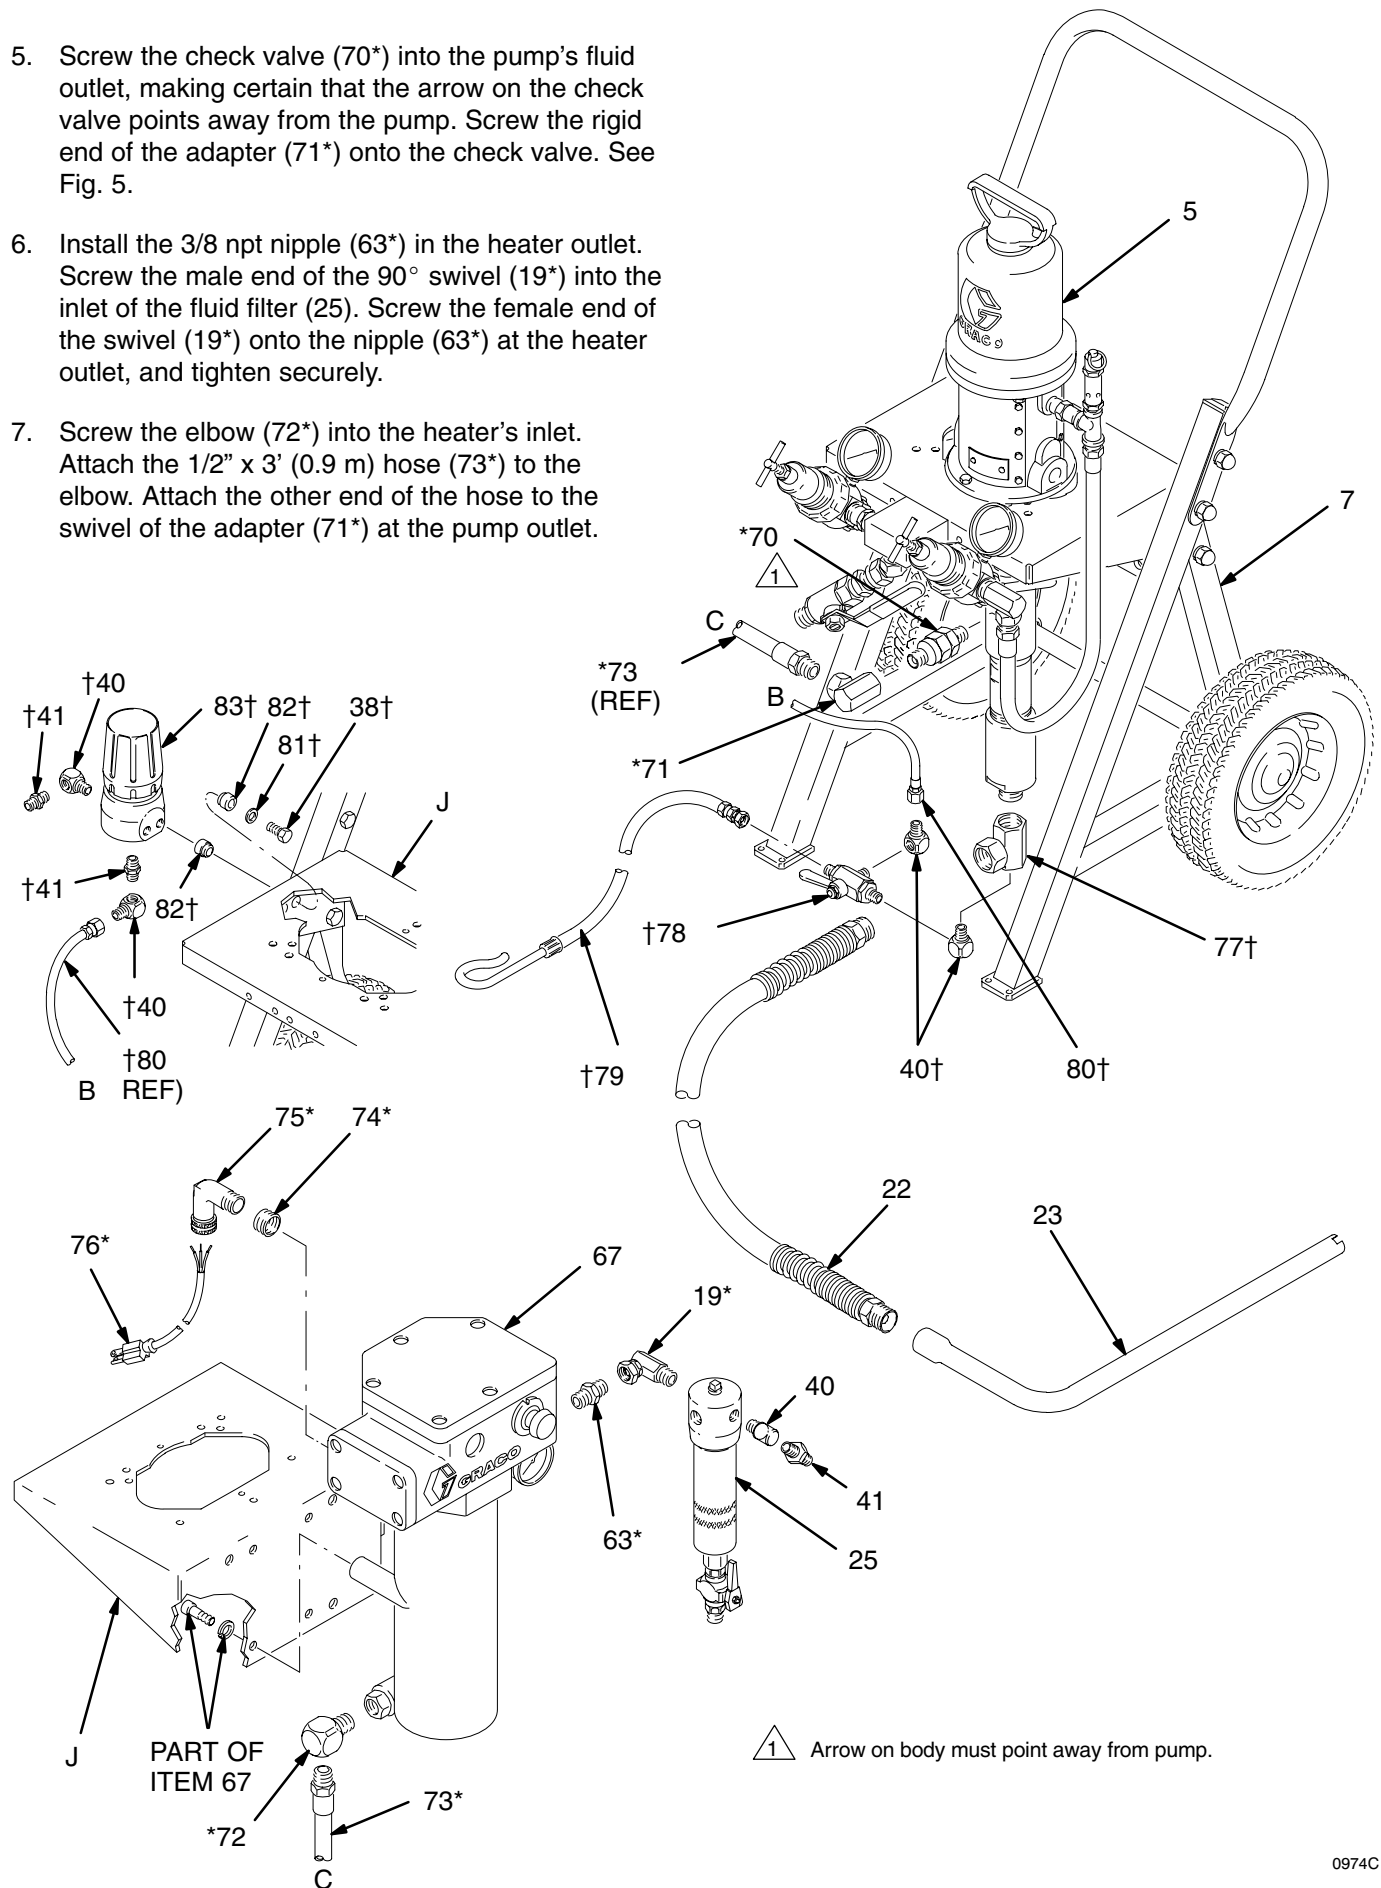

Fig. 5
3. Align the heater (67) mounting posts with the four holes at the back of the cart's pump support bracket (J). See Fig. 5. Secure the heater to the bracket with the M8 x 1.25 screws and lockwashers supplied with the heater.
5. Screw the check valve (70*) into the pump's fluid outlet, making certain that the arrow on the check valve points away from the pump. Screw the rigid end of the adapter (71*) onto the check valve. See Fig. 5.
6. Install the 3/8 npt nipple (63*) in the heater outlet. Screw the male end of the 90° swivel (19*) into the inlet of the fluid filter (25). Screw the female end of the swivel (19*) onto the nipple (63*) at the heater outlet, and tighten securely.
2. Screw the rigid end of the manifold (77†) onto the pump intake, and attach the suction hose (22) to the swivel end of the manifold. See Fig. 5.
3. Place a washer (81†) and insulator (82†) on each of the screws (38†). Insert the screws through the mounting holes on the left side of the pump support bracket (J), working from the inside. Place another insulator (82†) on each of the screws on the outside of the bracket. Use the screws to attach the back pressure regulator (83†) to the pump support bracket.